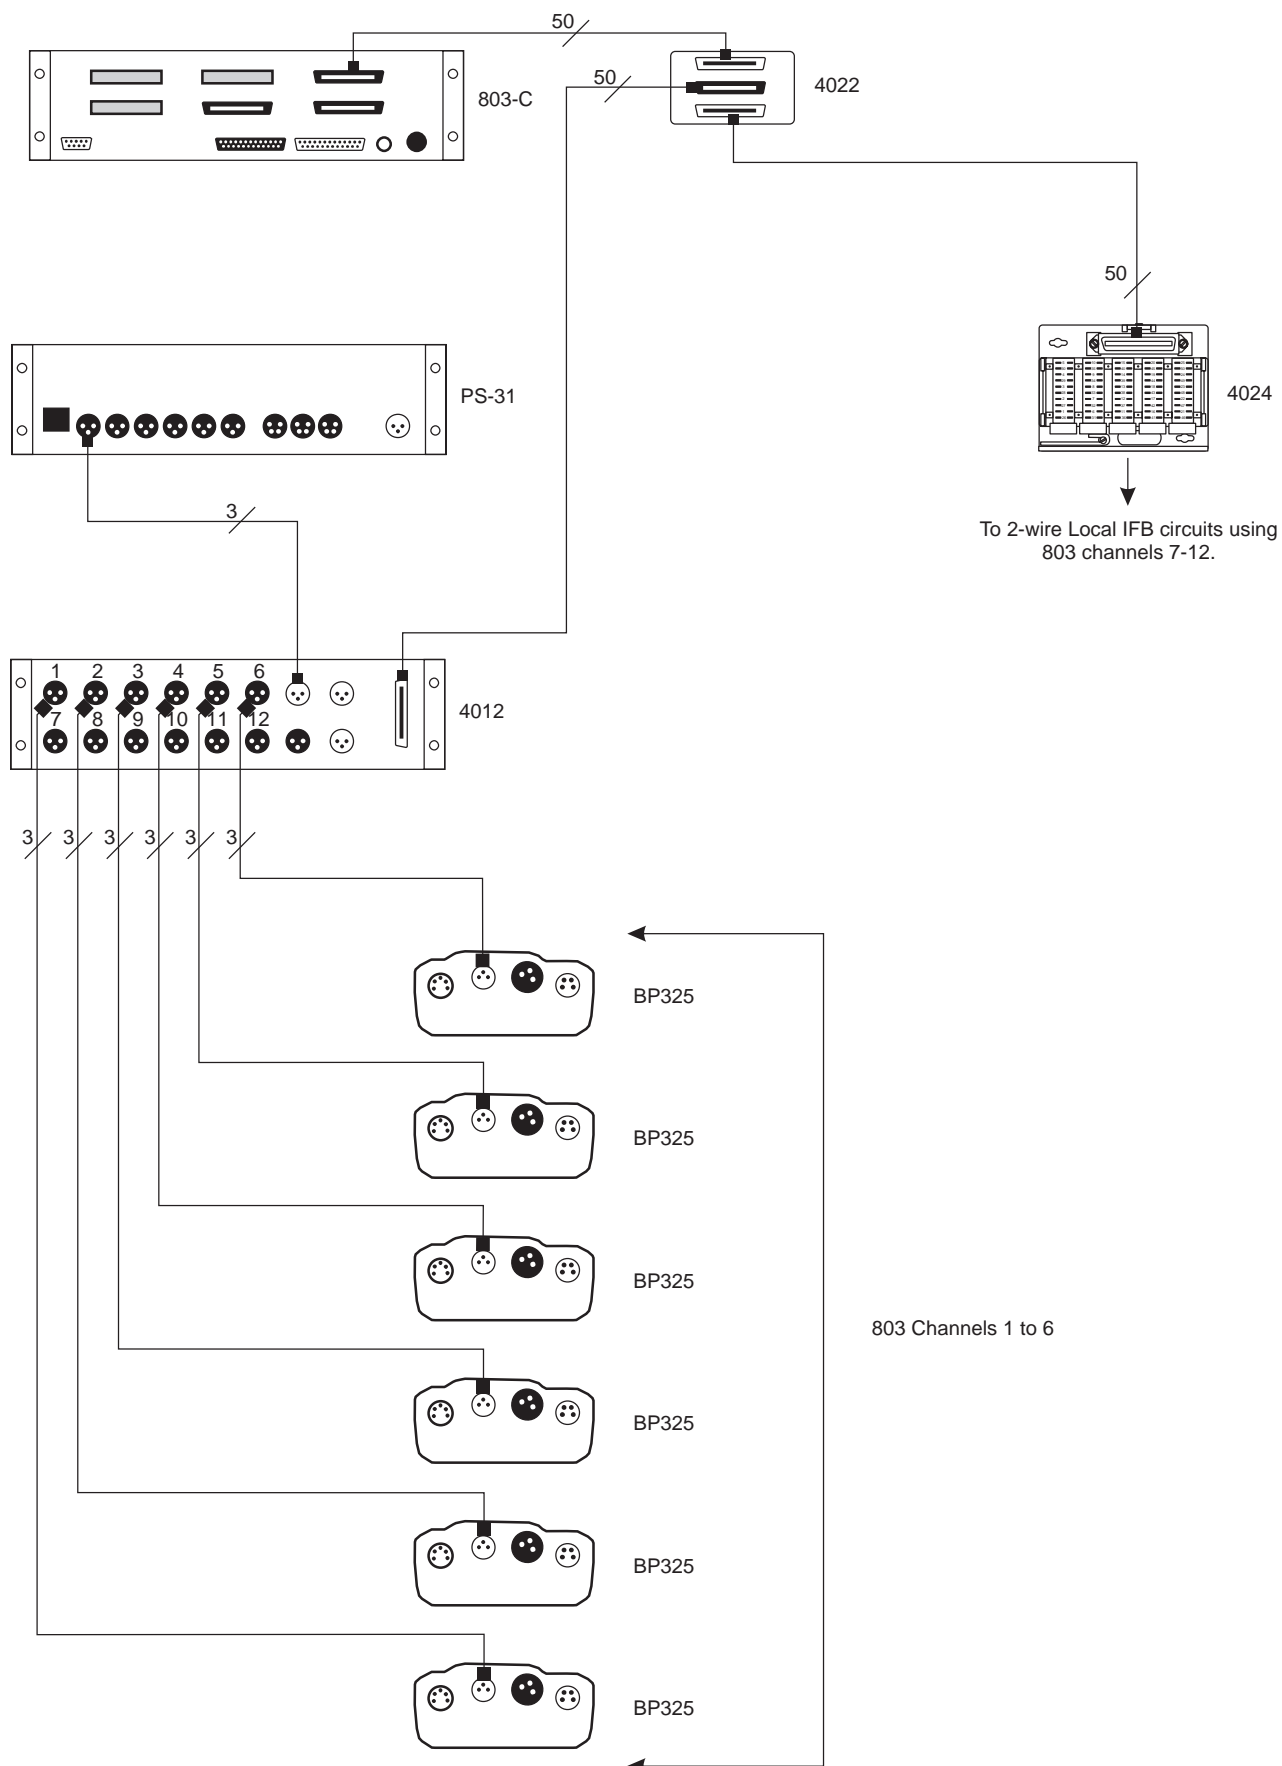

Figure 22. Using splitters with 2-wire channels to provide 6 regular intercom channels and 6 local IFB channels.
2. Connect the intercom channel to the remote listener's station. When connecting both local IFB channels and standard intercom channels to the 803, it may be convenient to use splitters. An example for 2-wire applications is shown in Figure 22, page 42. For a 2-wire IFB channel, use the appropriate pins at the J101 connector, page 21. (Note: the 2-wire channels are normally used for bi-directional audio. In this case, however, you will be using the channel for audio output only.) For a 4-wire channel, use the appropriate talk audio output pins at J105, page 26.